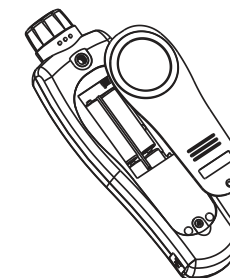

Figure 7
B. Replacing the Battery (See Figure 7)
4. Take out the old batteries and replace with 4 x 1.5V battery (AA).